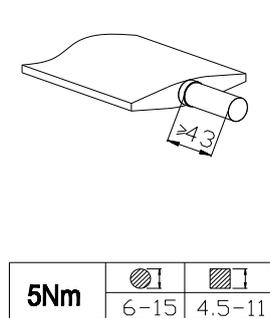

Fig.1
1. The specifications of the connecting shaft that the actuator can adapt to are shown in Fig.1 below.